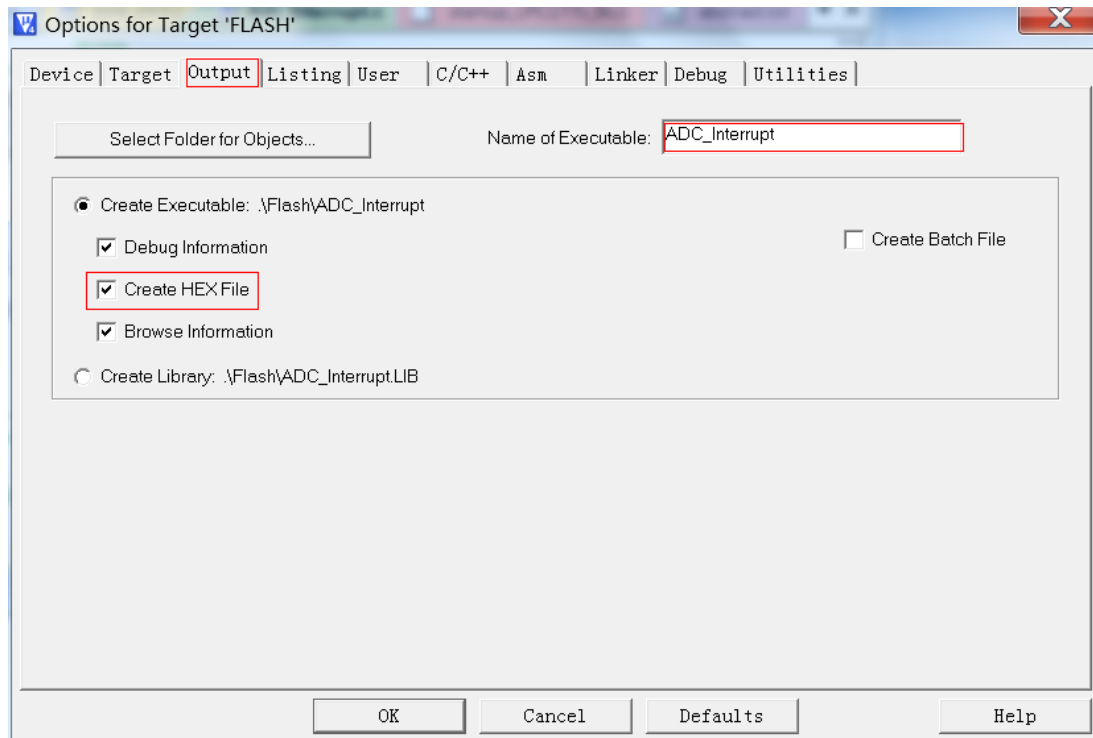

Figure 3-3
(3) Output options (include intermediate file). Refer to figure 3-3: